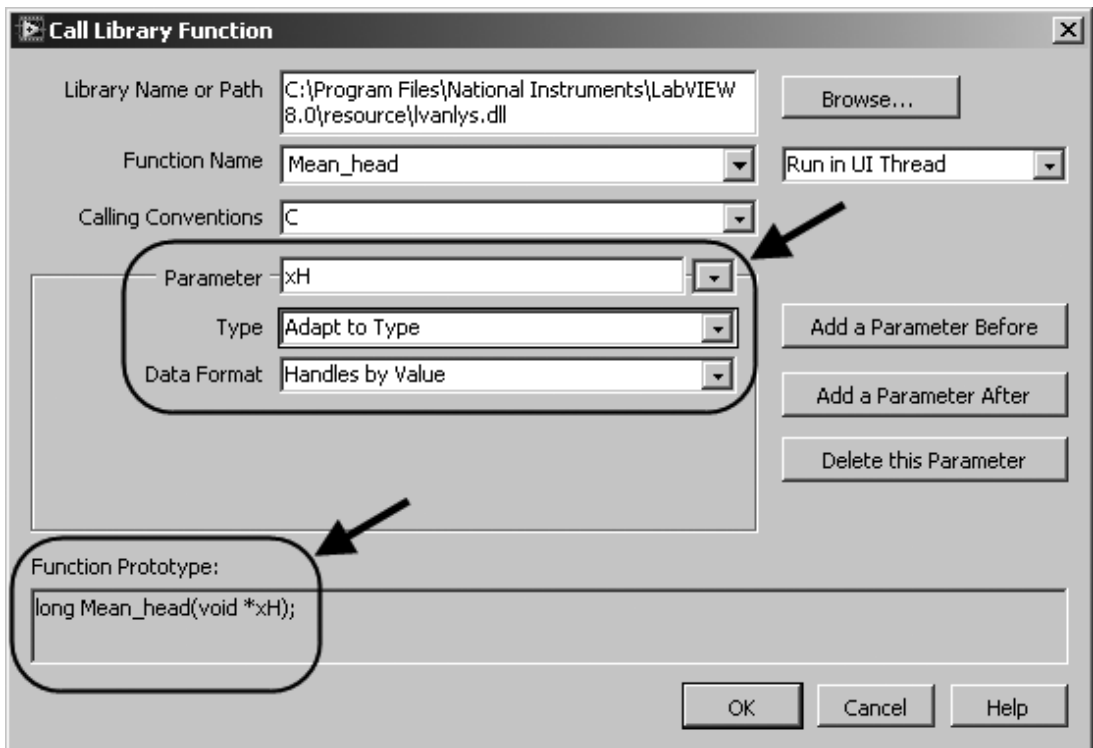

Figure 14.45
- e. Now that you've set the return type, it's time to define the arguments, or input parameters to the DLL function "Mean_head." Looking at the documentation, we see that there are three arguments: *xH, *mean, and *dsperr. These need to be entered in the correct order. Click on the "Add a Parameter After" button on the dialog. The **Parameter** field will say "arg1." Change this to say "xH." The type should be "Adapt to Type," and the data format should be "Handles by Value." Notice how the Function prototype at the bottom of the dialog is reflecting what you have entered, as seen in Figure 14.45.
Make sure your function prototype matches EXACTLY the one in Figure 14.45 and, in particular, that your parameters are in the right order.